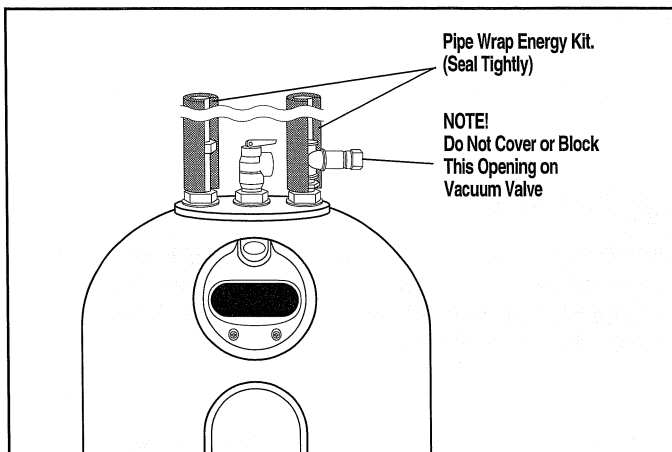

Figure 9 — Pipe Wrap Energy Kit
7. **PIPE WRAP ENERGY KIT** — A pipe wrap energy saving kit consisting of two lengths of foam insulation is included with this water heater. To realize maximum energy savings, all exposed pipes should be insulated. However, most of the energy losses occur close to the water heater. This kit is designed to minimize this loss. Install one piece of insulation on the cold water supply line and the other piece on the hot water line. (Refer to Figure 9). Install the pipe wrap as close to the water heater as the installation allows. Make sure fittings are covered and the joint in the pipe wrap is sealed.